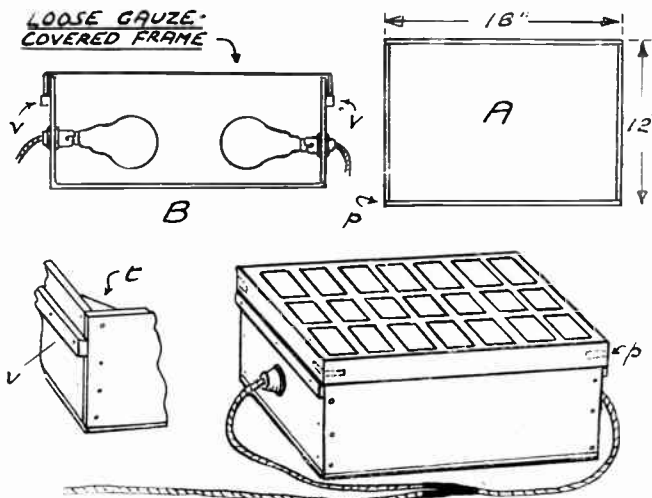

Fig. 2—An electric lamp container
excellent thing to have a heat drier, the heat being supplied by two electric bulbs encased in a container as Fig. 2. First required is the gauze-covered frame (A) which in general is the same as the one just described. In this case, however, a convenient size is 12ins. by 18ins., which means that it will hold three rows of seven each of 3 1/4in. by 2 1/4in. prints at any one time.